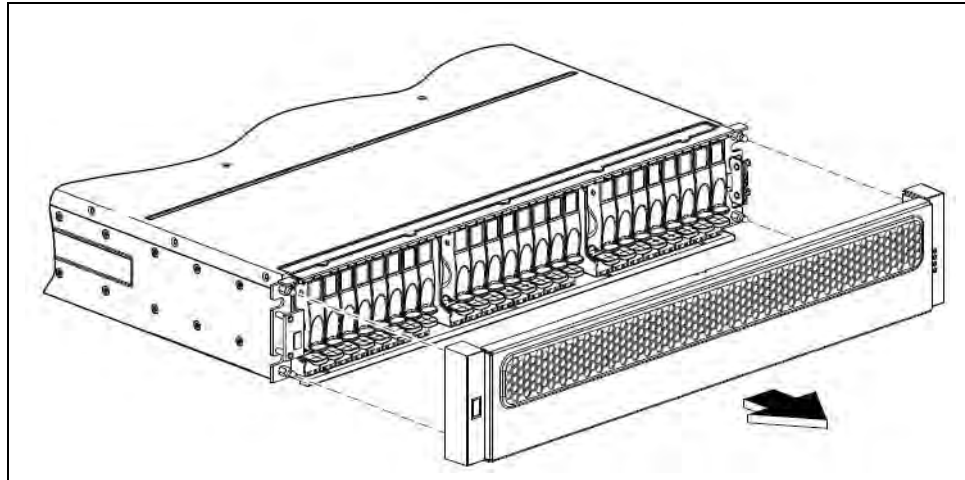

Figure C.40 - Bezel Assembly Removal
2. While facing the front of the enclosure, place your index and middle fingers of each hand on the top of the bezel with your thumbs on the bezel's bottom. To release the bezel from the ball studs, pull the top of the bezel gently, while applying slight inward pressure below (**Figure C.40**).